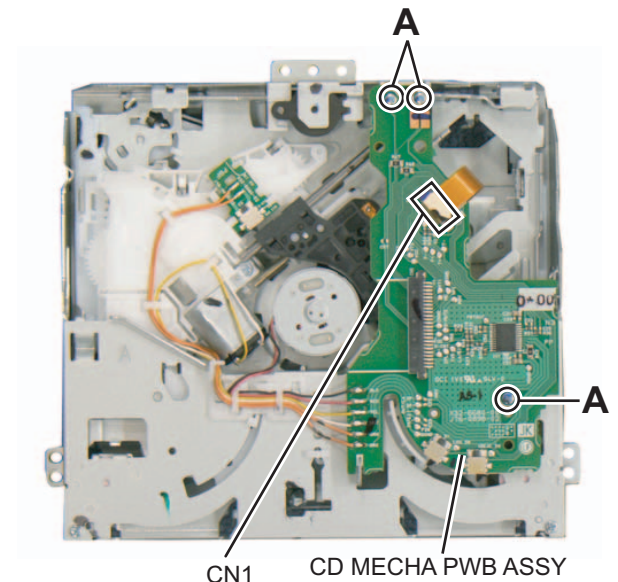

Fig.3
(3) Disconnect the FPC wire from the connector CN1 (CD Player unit). (See Fig.3)
(4) Remove the 3 screws **A** attaching the CD MECHA PWB ASSY. (See Fig.3)
(5) Remove the CD MECHA PWB ASSY. (See Fig.3)